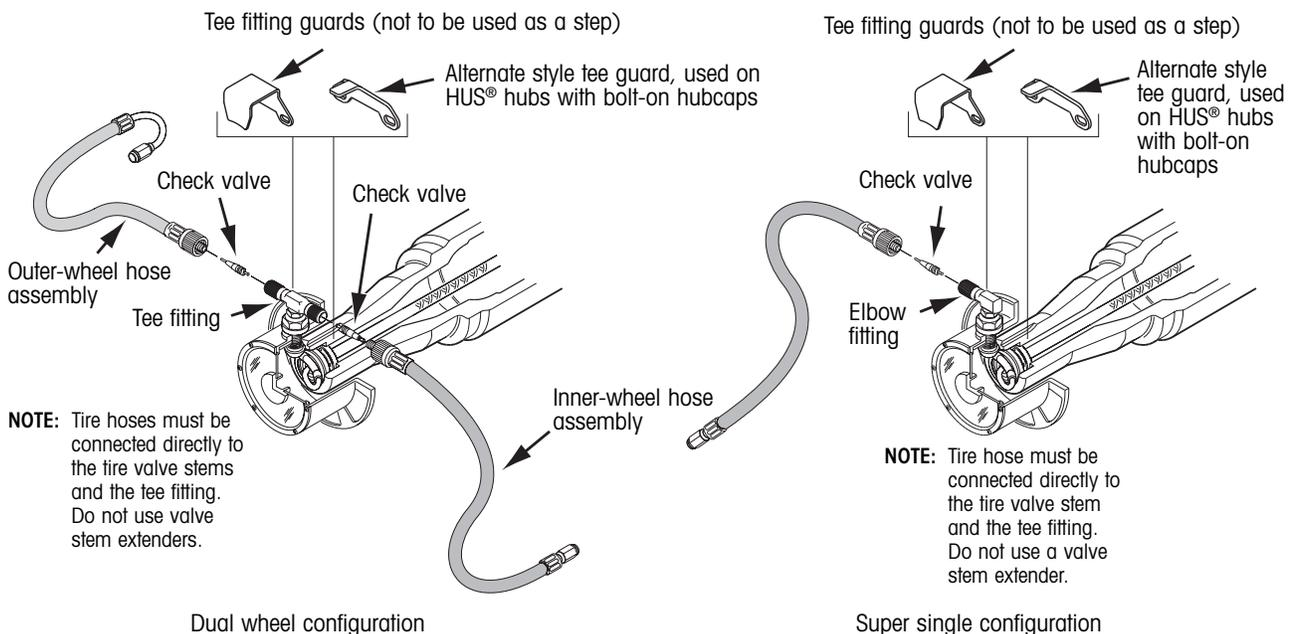

Figure 31. Tire hose, check valve and tee fitting guard installation
5. Attach tire hose and check valve assemblies to the tee or elbow fitting and tighten finger tight (figure 31). Using pliers, carefully and gently verify that the hose connection is tight.